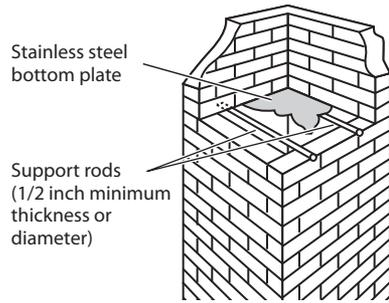
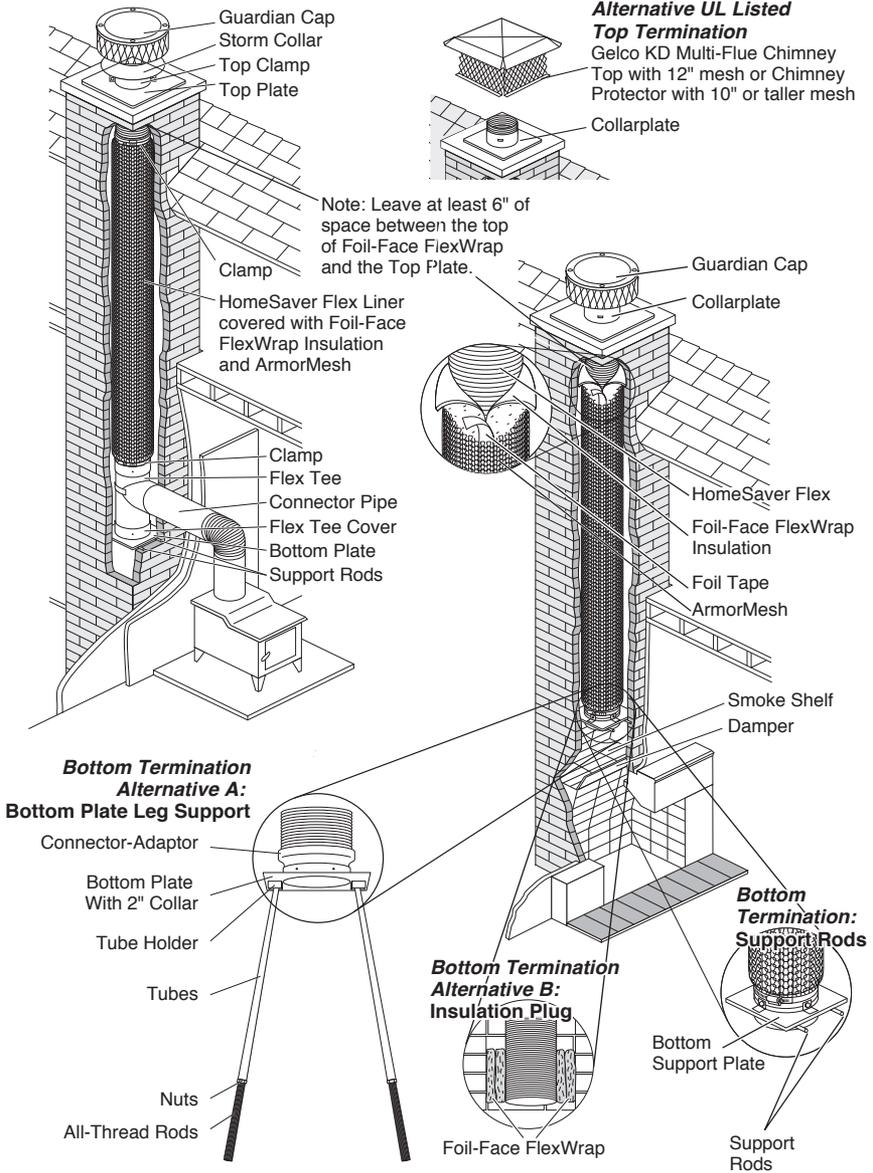

FIGURE 11 – LINER SUPPORT RODS
FIGURE 12 – ALTERNATIVE TOP AND BOTTOM INSTALLATIONS
5. Install support rods and bottom plate as shown (Figure 11) so the take-off will line up with the thimble hole. The tee sits on the plate which supports the weight of the liner.
7. When using HomeSaver UltraPro or Pro relining pipe to reline a fireplace flue, terminate the liner at the bottom of the chimney flue just above the smoke chamber. Several terminations are illustrated on page 14, Figure 12. Support rods are also illustrated in Figure 11. As an alternative method of support, a HomeSaver Bottom Plate Leg Support System can be used instead of support rods (see Figure 12, page 14, alternative "A.") Install the four support brackets by bolting to the liner in a position that allows them to rest on the bottom plate, and so no more than 2" of liner is below the plate. Or, a bottom plate with 2" collar may be used. A connector-adaptor will be needed to join the liner to the collar.
Another choice is the Home-Saver Insulation Plug (see Figure 12, alternative "B," page 14). HomeSaver Foil-Face FlexWrap must be layered with refractory cement and tightly packed at the base of the liner to a depth of 6" to form a seal. Make sure there is adequate support at the top of the chimney. If the liner, including insulation, weighs more than 150 pounds, double up on the top plates and top/bottom support brackets.
2. **Use the HomeSaver Factory-Built Liner Adaptor** if you are relining a factory-built chimney, Figures 11 and 12. Allow the liner to extend 3" above the adaptor. Install the storm collar over the liner, making sure the bottom of the storm collar sits flush on the liner adaptor. Seal with high temperature silicone sealant. Install the top clamp above the storm collar so it sits on the collar. Squeeze the base of a Guardian cap and slide it into the liner. See illustration.